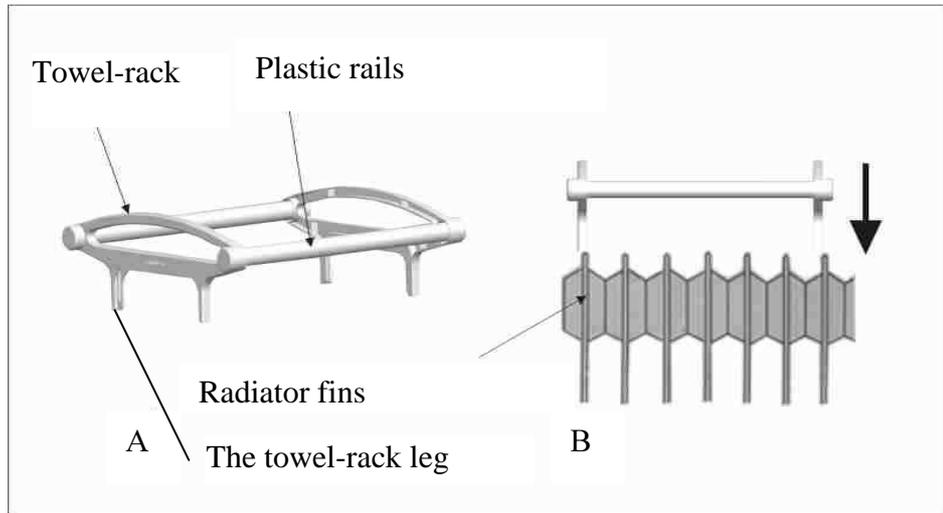

Figure 5
1. The towel-rack slots should be joined with the fin edges as shown in the picture (figure 5 A).
2. You should push slightly the towel-rack to make it firmly join together. (figure 5 B)